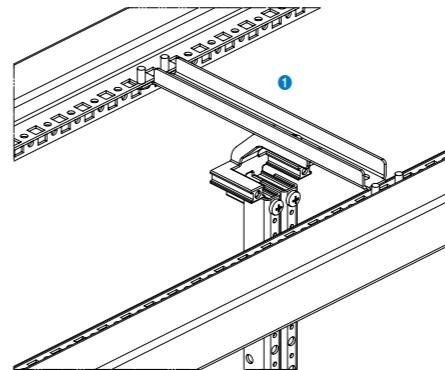

Fig. 1: Depth fitting kit type XVTL-TE - installation at the top
**Support rails and depth fitting kit (Fig. 1 and 2)**